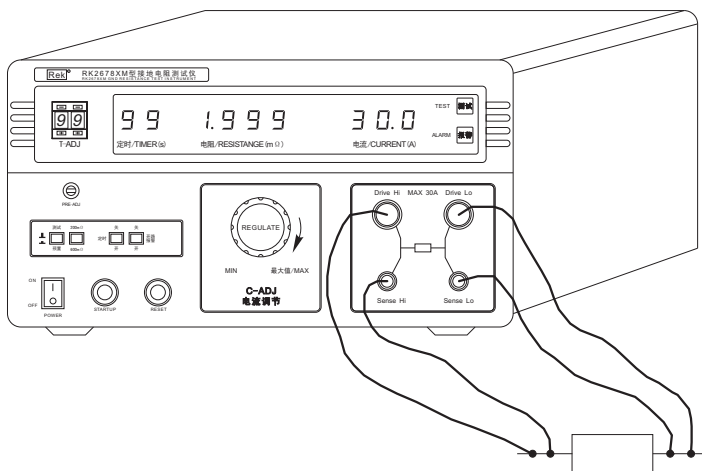

Fig. 3
(1) Accurate test: complete wiring according to Fig. 3, and connect four-end testing line respectively to the tested appliance.